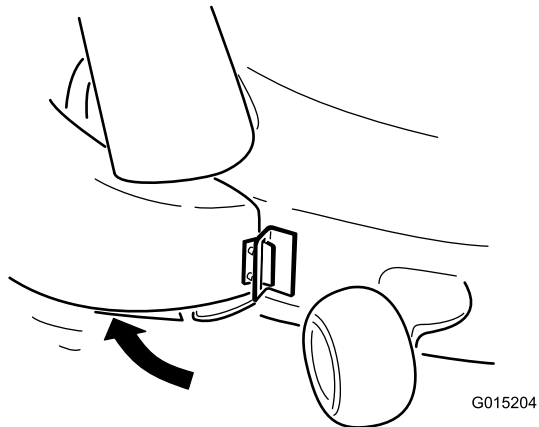

Figure 10
3. Pivot the chute back and toward the deck so chute is flush with the mower deck (Figure 10).